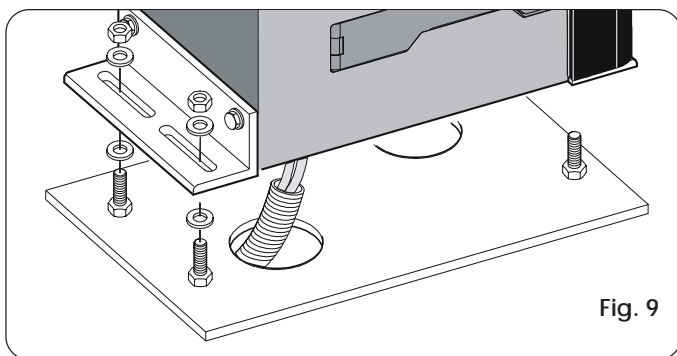

Fig. 9
- 3) Fit the operator on the plate, using the supplied washers and nuts as shown in Fig. 9.